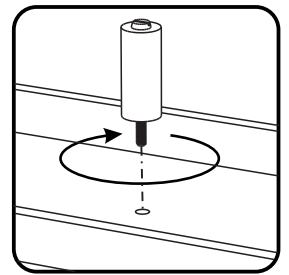

Figure 4
Attach Foot (I) to unit. (See Figure 4)